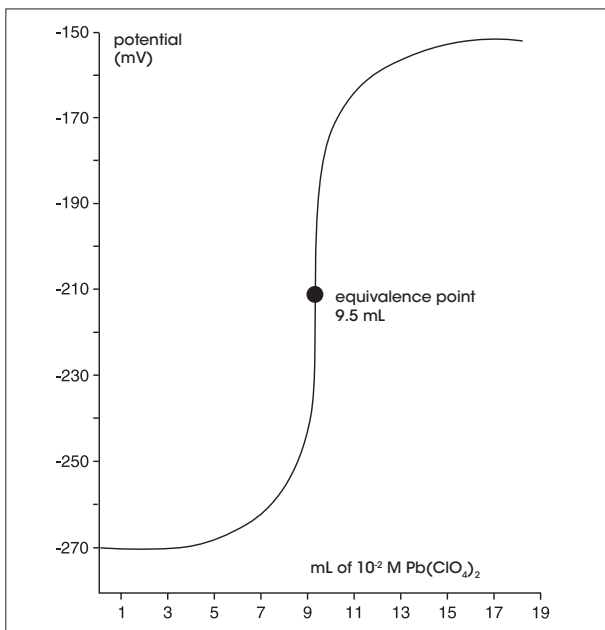

Figure 3 – Typical Sulfate Titration
2. Perform an equivalence point titration using a standard EQP (equivalence point) titration method template available in the Tx Excellence and G20 Compact titrators. The EQP of the titration is the point of the greatest slope (inflection point). See **Figure 3**.
- Perform an equivalence point titration using a standard EQP (equivalence point) titration method template available in the Tx Excellence and G20 Compact titrators. The EQP of the titration is the point of the greatest slope (inflection point). See **Figure 3**.